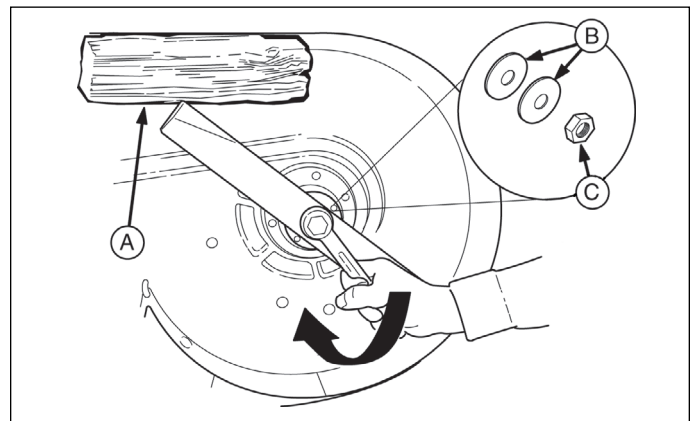

Figure 16. Blade Installation
3. Remove the nut (C, Figure 16), blade washers (B), and blade.
6. Reinstall the blade (Figure 16) with the tabs pointing up toward the mower deck as shown.
7. Reinstall the blade washers (B, Figure 16), concave side up, and nut (C). Use a wooden block (A) to prevent blade rotation while tightening the hardware. Torque hardware to 80-90 ft-lbs.